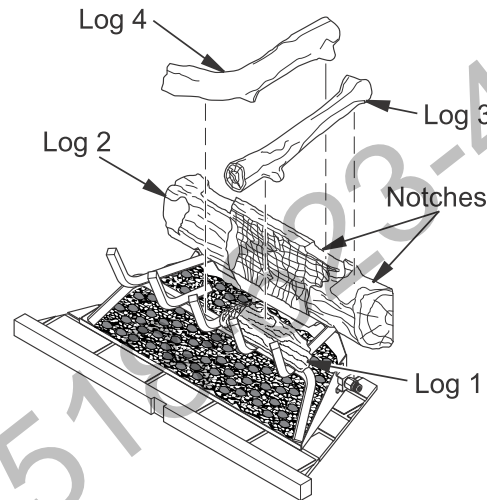
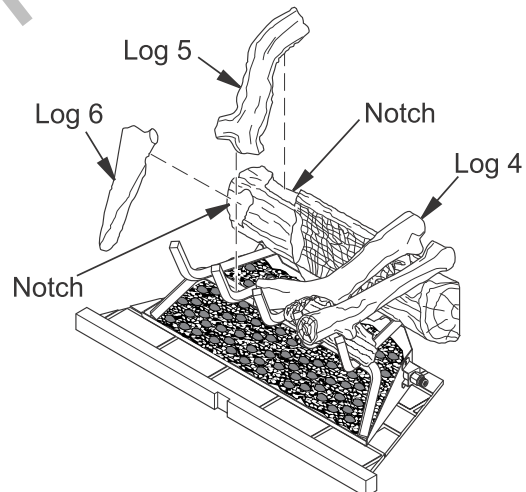
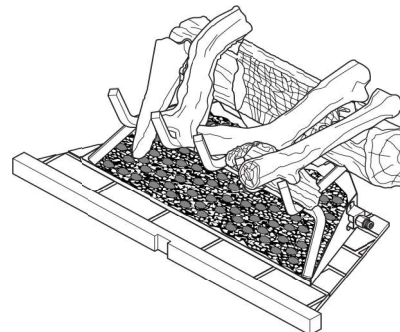

Figure 23 - Installing Logs 3 and 4
Figure 24 - Installing Logs 5 and 6
Figure 25 - Logs Installed for M36, M36P, VM36 and VM36P Models
3. Place log 3 into notch on log 2, resting front end on top of log 1 (see Figure 23).
4. Place upper end of log 4 into notch on log 2 as shown in Figure 23. Rest lower end of log 4 onto middle grate finger as shown in Figure 24.
5. Place upper end of log 5 into notch on left of log 2 (see Figure 24). Rest lower end of log 5 on grate as shown in Figure 25.
6. Insert lower end of log 6 between first two grate fingers as shown in Figure 25 and position upper end of log 6 into notched area on front of log 2 as shown in Figure 25.